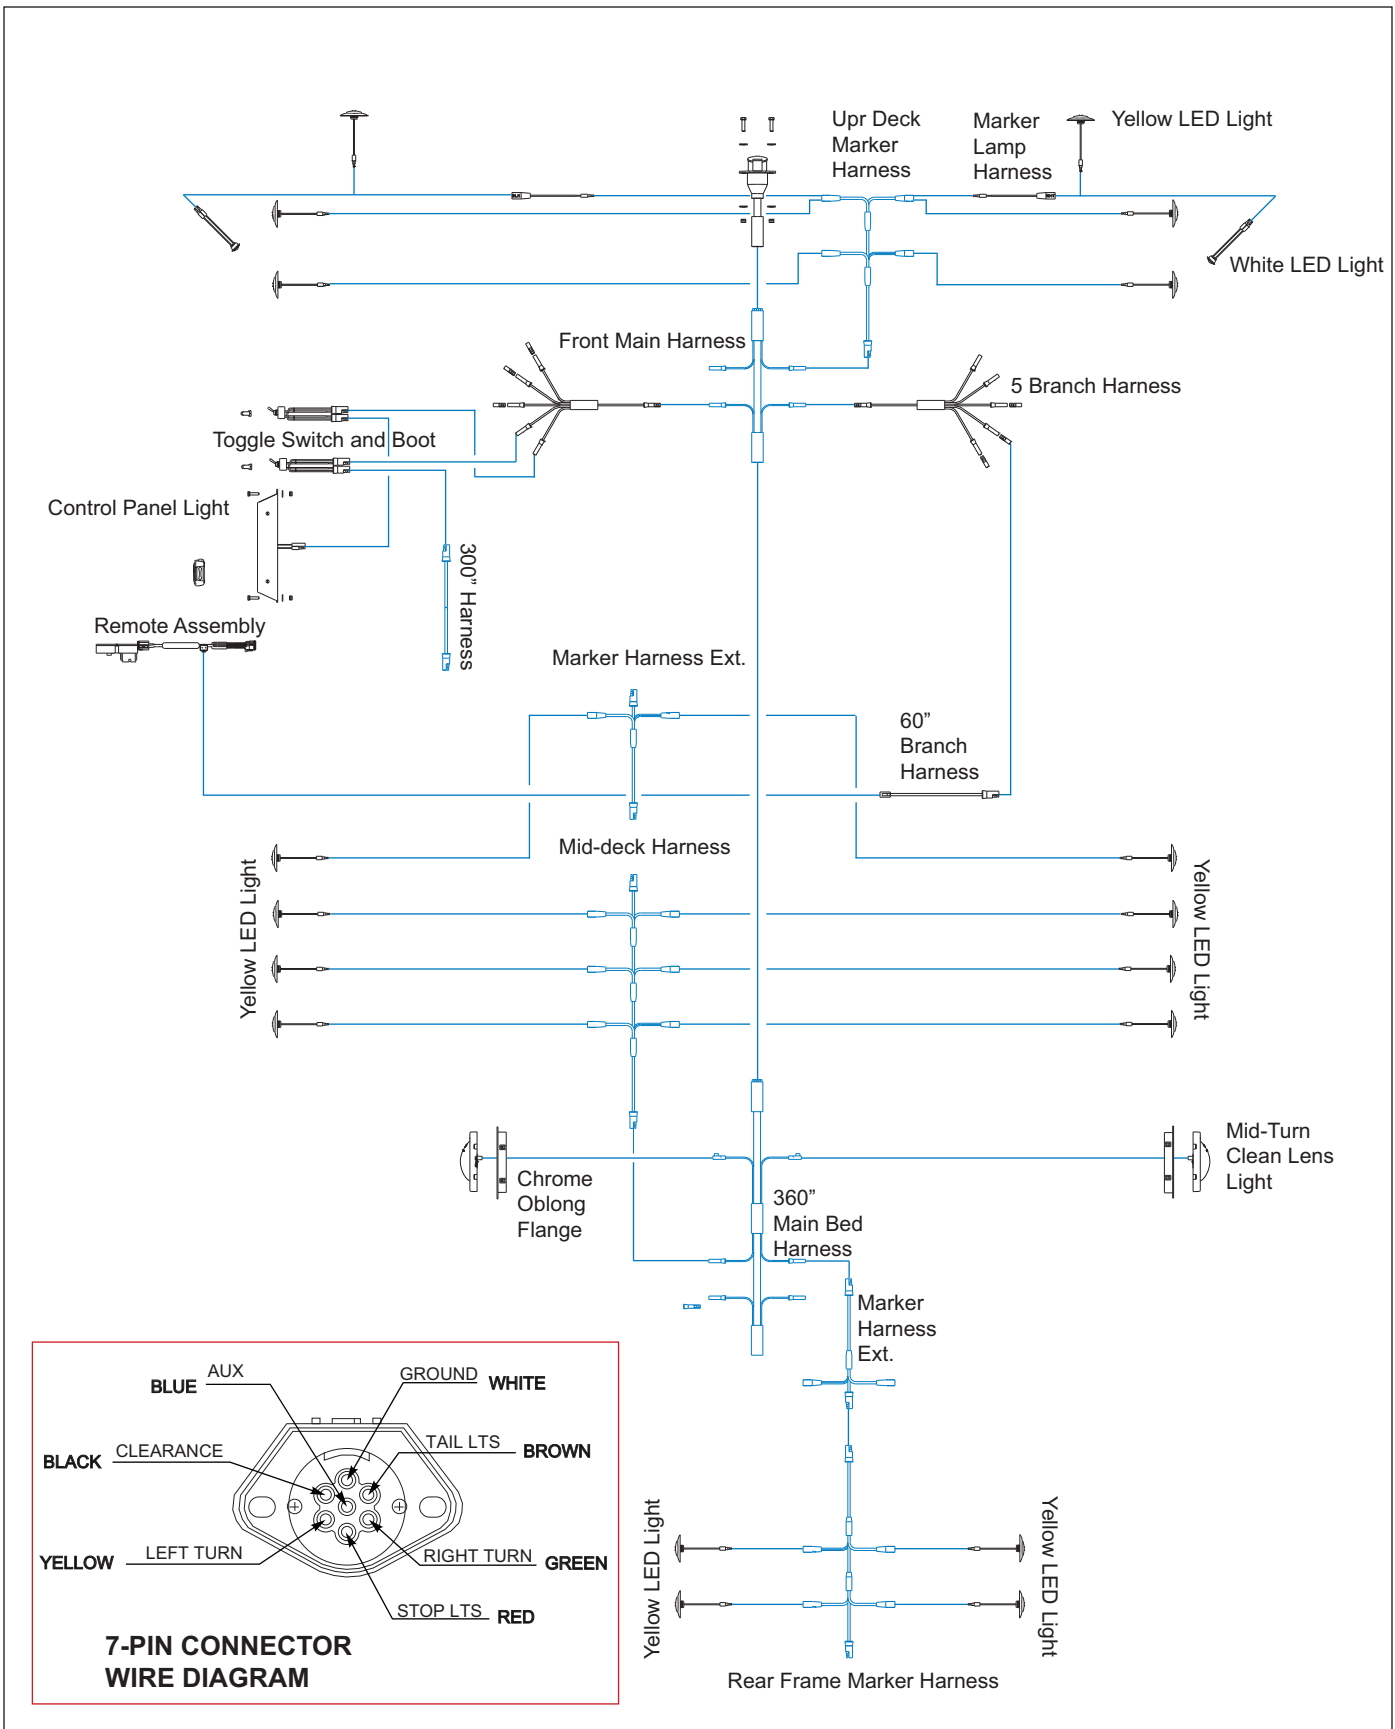

Figure 4-3: 900E Series Wiring Diagram
1. Maintenance of the electrical system consists of inspection and minor servicing. Any wire, connection or electrical component showing signs of corrosion, wear, breakage or unraveling must be repaired or replaced. (**See Figures 4-3 and 4-5**) for electrical wiring diagrams.